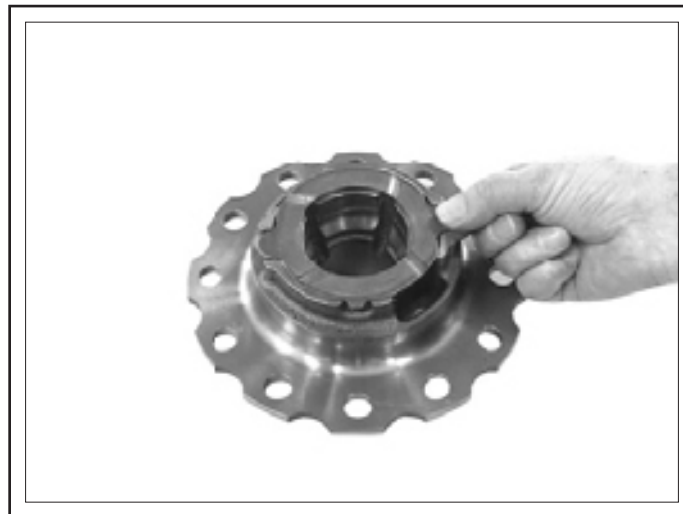

Figure 17 - Thrust Washer Placed in Differential Cover Carrier
2.44. Insert the second axle bevel gear (part # N8898604) into the differential carrier. See Figure 17.
2.45. Grease the sliding surface of the second thrust washer (part # N8893147) according to the ZF List of Lubricants TE-ML 12. Insert the thrust washer into the differential carrier cover. See Figure 17.